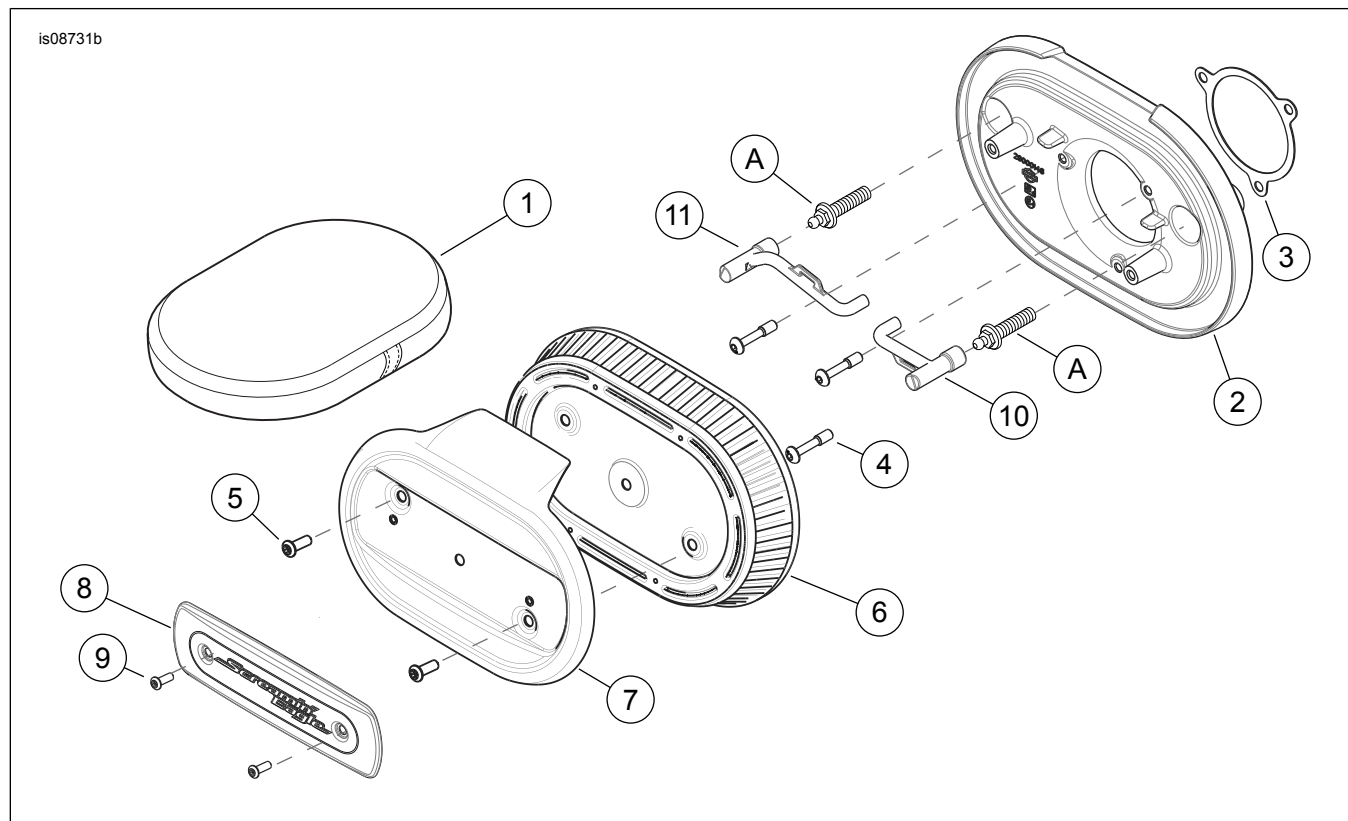

Figure 2. Service Parts: Milwaukee-Eight Screamin' Eagle Ventilator Air Cleaner Kit
See Figure 2 and Table 1.
1. See Figure 2. Peel the protective strip off the gasket (3) and place the adhesive side onto the backplate (2). Align to the equally spaced screw holes, and position the gasket carefully before firmly pressing the gasket into place.
2. Insert OE breather screws (A) through the backplate.
1. See Figure 2. Install breather tubes (10 and 11) to breather screw nipple and ribs in the backplate.
2. Install air filter element (6) and cover (7) to backplate using button hex cap screws (5). Tighten.